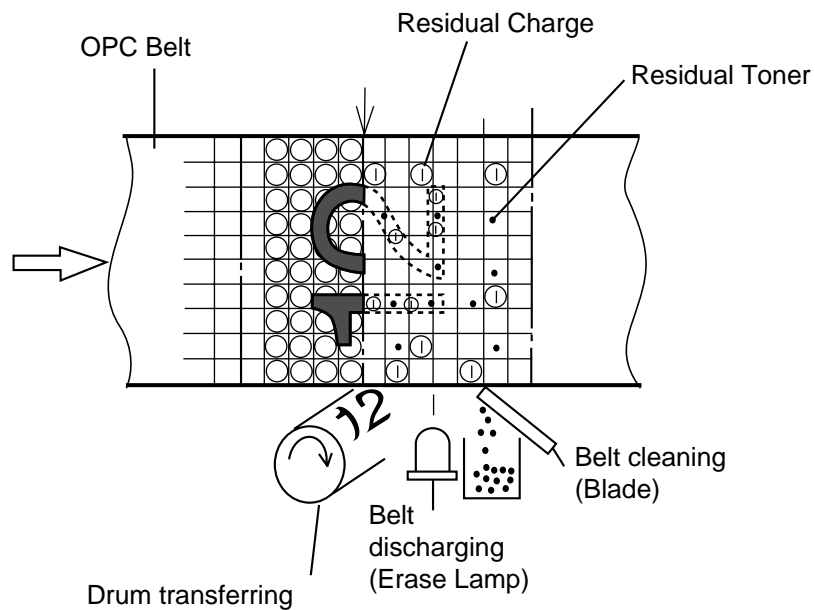

Fig.4-18
- (2) First Transfer Process (Refer to Fig.4-18.)